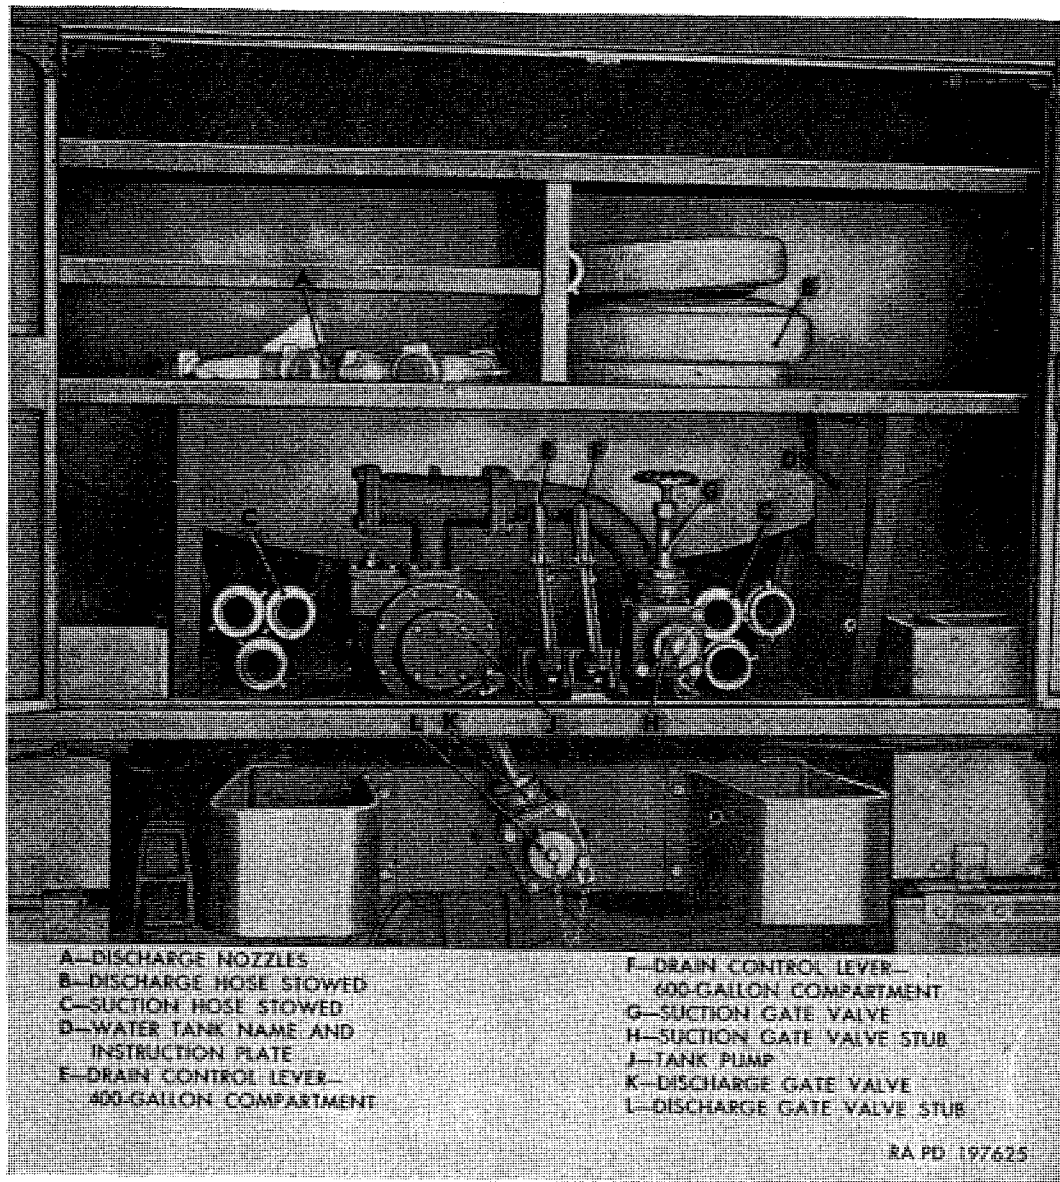
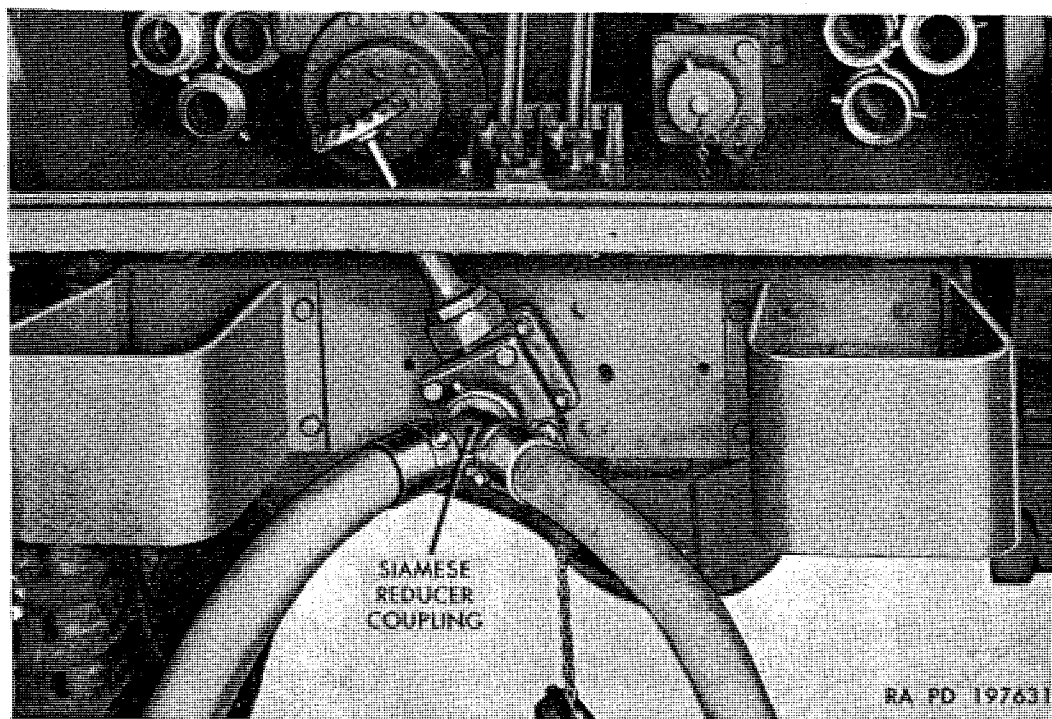

Figure 55. Water tank pump and equipment compartment.
Figure 59. Use of siamese reducer coupling.
a. General. Water tank body, mounted on water tank truck M222 (figs. 12 and 13), includes a 400-gallon compartment at rear of body and a 600-gallon compartment at front. Discharge and suction gate valves (G and K, fig. 55) connected to a pump are mounted in rear compartment. Tank compartments are filled through filler openings (fig. 58) in top of body.
(5) *Water tank body name and instruction plate.* Plate (fig. 53, and D, fig. 55), on inside wall of rear compartment, includes manufacturer's name, serial number, ordnance stock number, and brief instructions regarding the use of suction and discharge equipment.
ment as shown in figure 54 is stowed in rear compartment (fig. 55). Use of the equipment is explained in paragraph 53.
d. Discharge and Suction Controls. The water pump discharge gate valve, suction gate valve, and drain valve control operating levers are located in rear compartment (fig. 55).
- (5) After pumping is completed and truck is to be stopped, move transmission shift control lever to N position, transfer lever to DOWN NEUTRAL position, and power-take-off lever to DOWN NEUTRAL position.
d. Operation of Suction and Discharge Equipment. The gravity discharge gate valve and the pump suction gate valve (G and K, fig. 55) must be closed before all operations begin. Turn gate valve handwheels clockwise until closed. Both drain valve control operating levers must be pushed completely forward.
- (a) Attach 2 x 1½ reducer (F, fig. 54) to suction gate valve stub (H, fig. 55).
- (5) *Use of siamese reducer coupling.* Siamese reducer coupling (E, fig. 54) may be attached to discharge gate valve stub (L, fig. 55) to permit use of two discharge hose lengths as shown in figure 59.